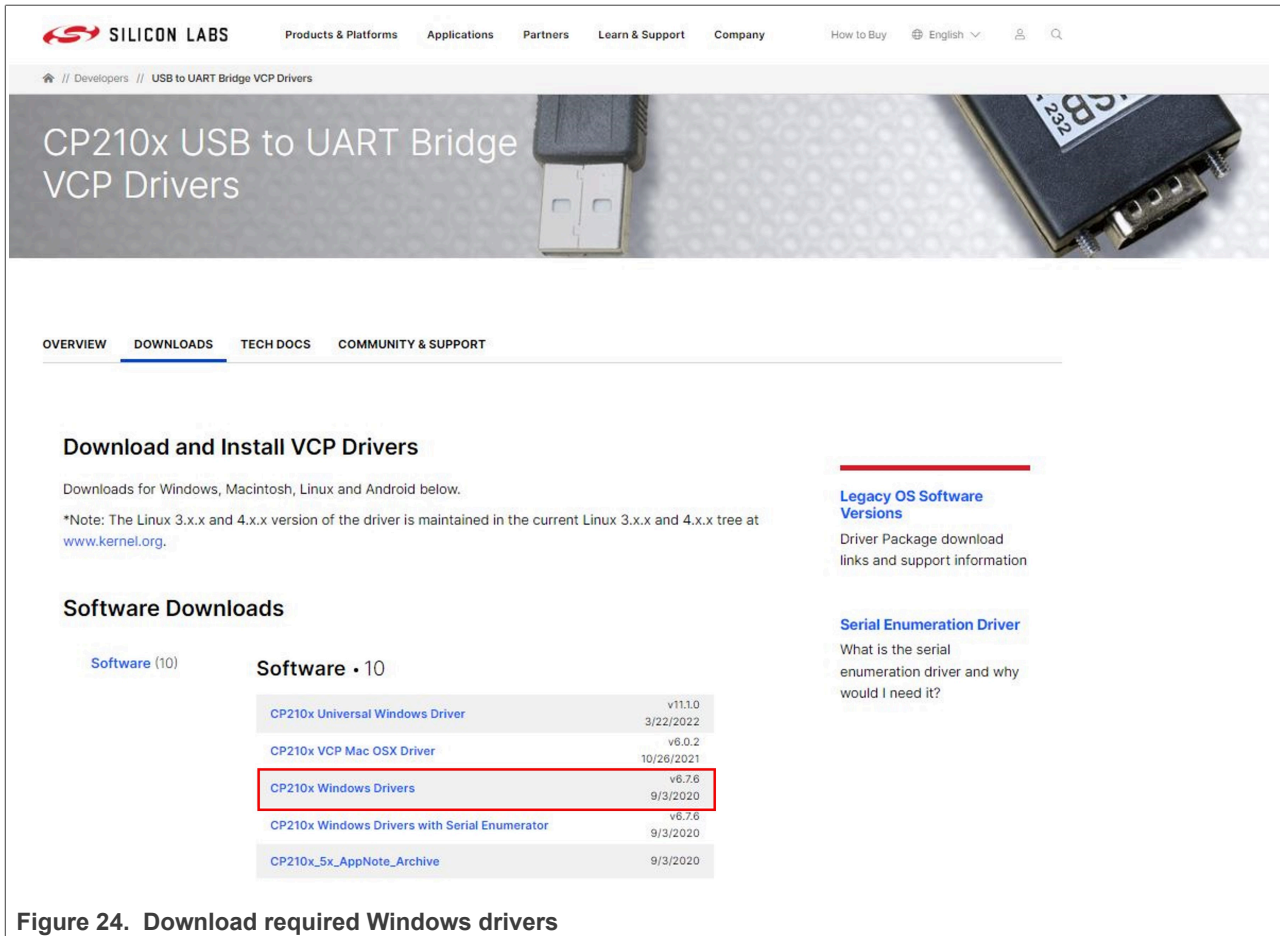

Figure 24. Download required Windows drivers
- 1. Go to the following website and download the *CP210x Windows Drivers* software package as shown in Figure 24: